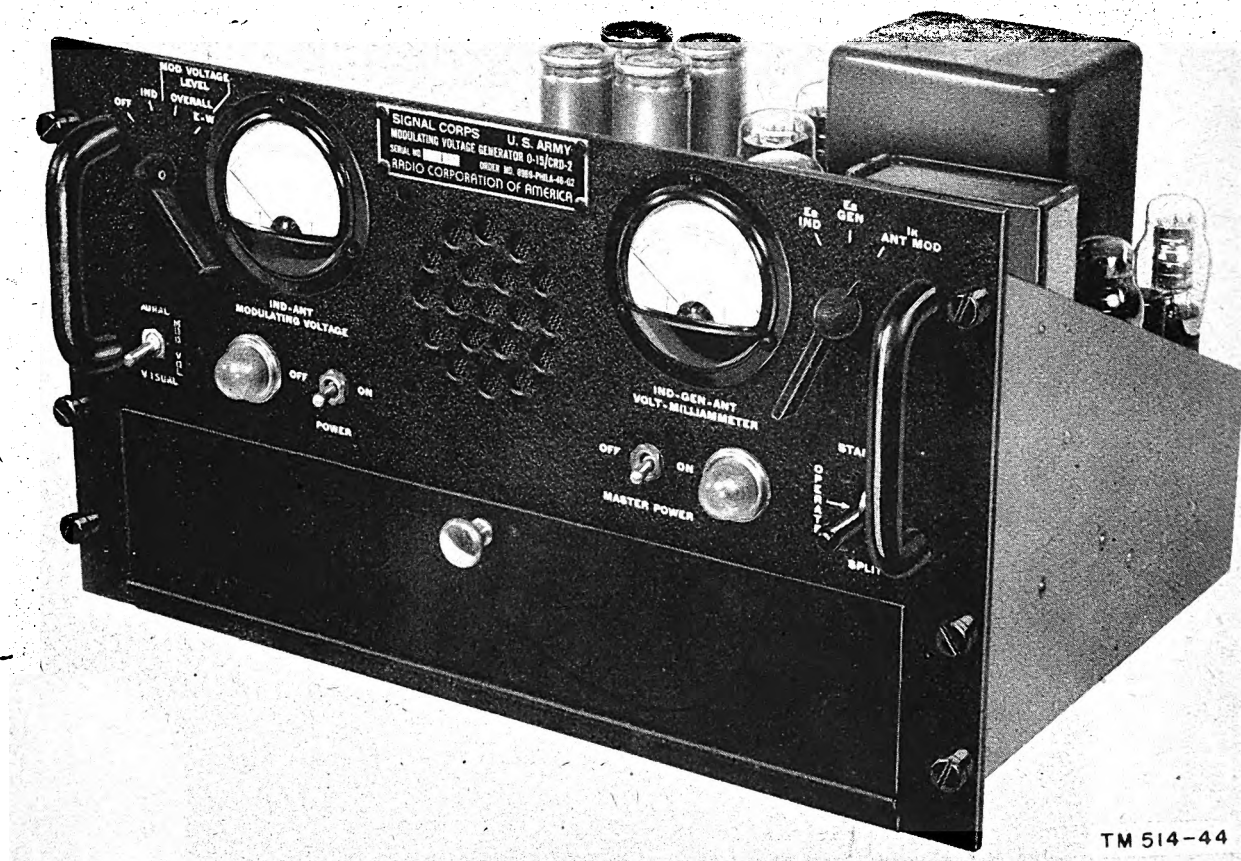

Figure 12. Modulating Voltage Generator O-15/CRD-2.
b. Modulating Voltage Generator O-15/CRD-2 (fig. 12) consists of a chassis assembly complete with 11 tubes and a control panel. The operating switches, controls, nameplate, and loudspeaker are mounted on the control panel. Three a-c receptacles, one a-c output connector, one 20-conductor cable connector, one synchronizing voltage connector, and one loudspeaker input connector are attached to the rear of the chassis. The modulating voltage generator mounts at the top of Rack MT-332/CRD-2 and